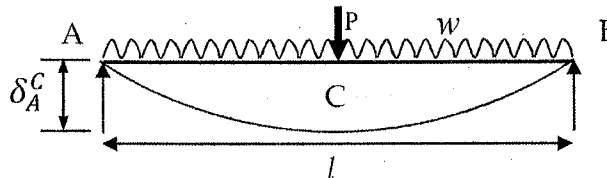

Figure Q2a
- (ii) As shown in **Figure Q2a**, Beam AB is subjected to a uniformly distributed load ( $w$ ) along the beam and a point load ( $P$ ) at the mid-span (at *C*). Using **Mohr's 1st and 2nd theorems**, determine the **rotation at point A from the horizontal** (4 Marks) and the **deflection at point C** (4 Marks). Flexural rigidity of the beam is  $EI$ . [Total 8 Marks]